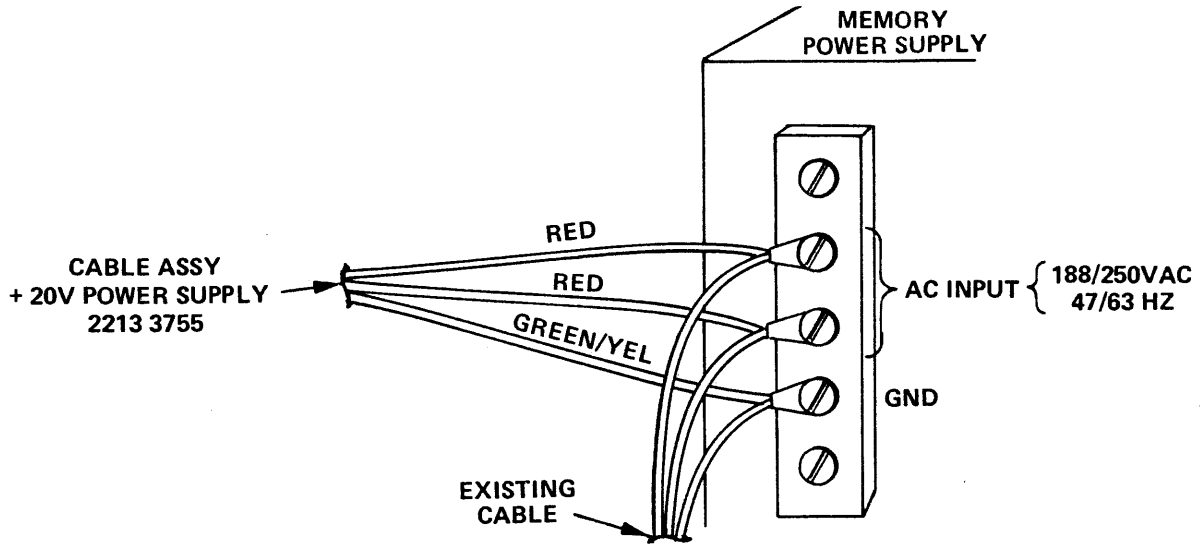
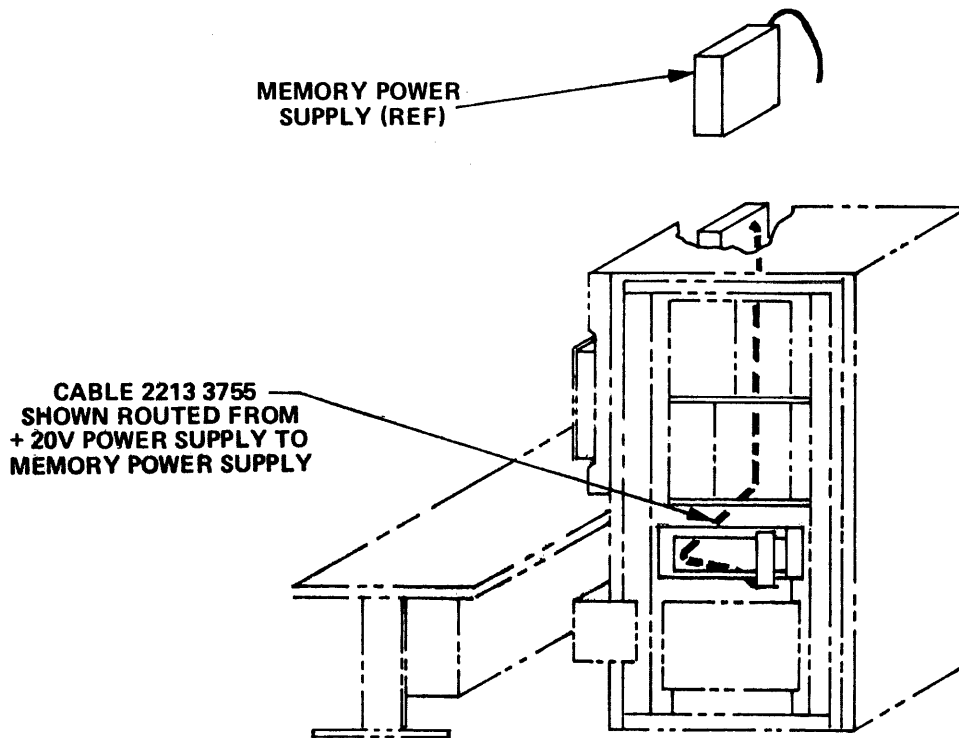
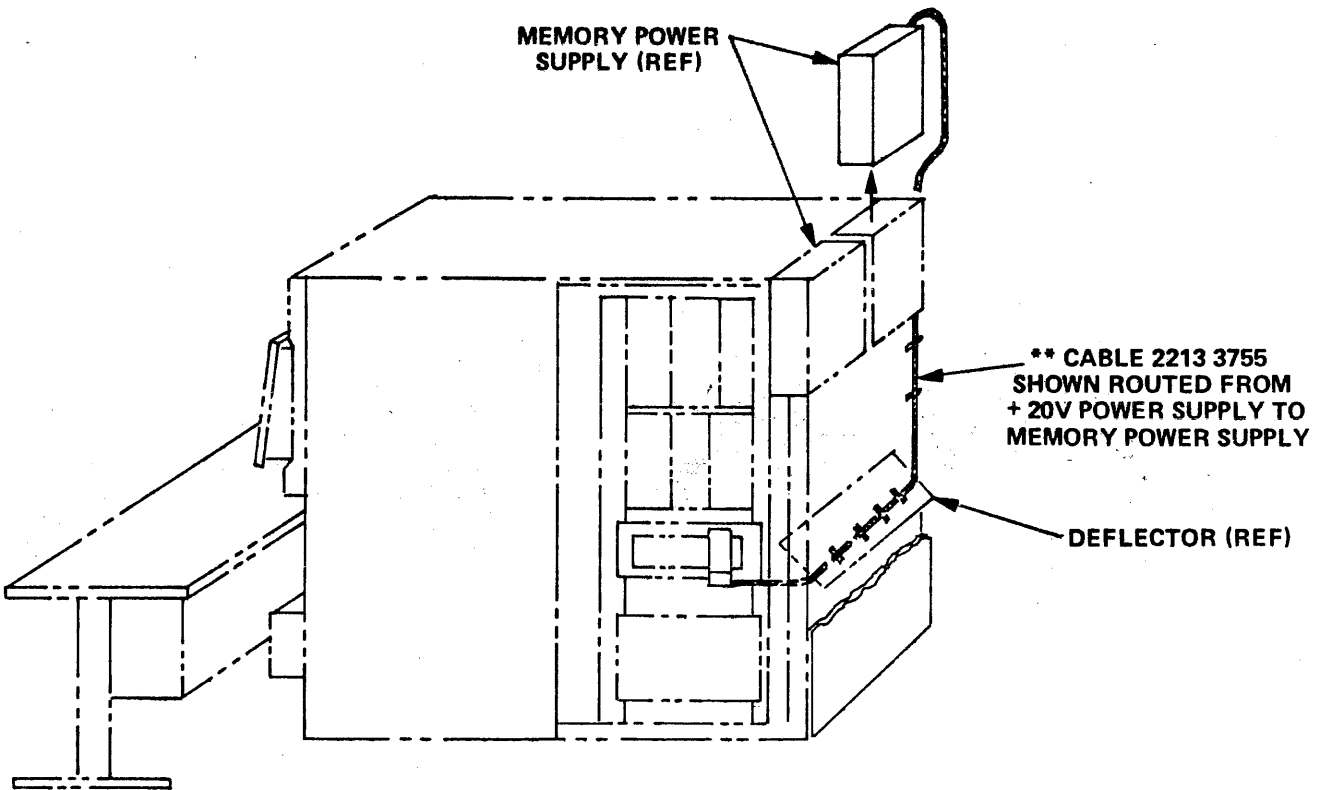

Figure 6-17. + 20 Volt Power Supply AC Wiring
Figure 6-18. + 20 Volt Power Supply AC Cable Routing
Figure 6-19. + 20 Volt Power Supply AC Cable Routing
- d. Connect the ac cable (P/N 2213 3755) to the ac input terminals of the memory power supply (memory supply # 1 in B 1720 series systems) as shown in figure 6-17. Route the cable as shown in figure 6-18 (B 1710 series systems) or figure 6-19 (B 1720 series systems), securing it with cable ties to the system frame or existing wire harnesses at six-inch intervals.